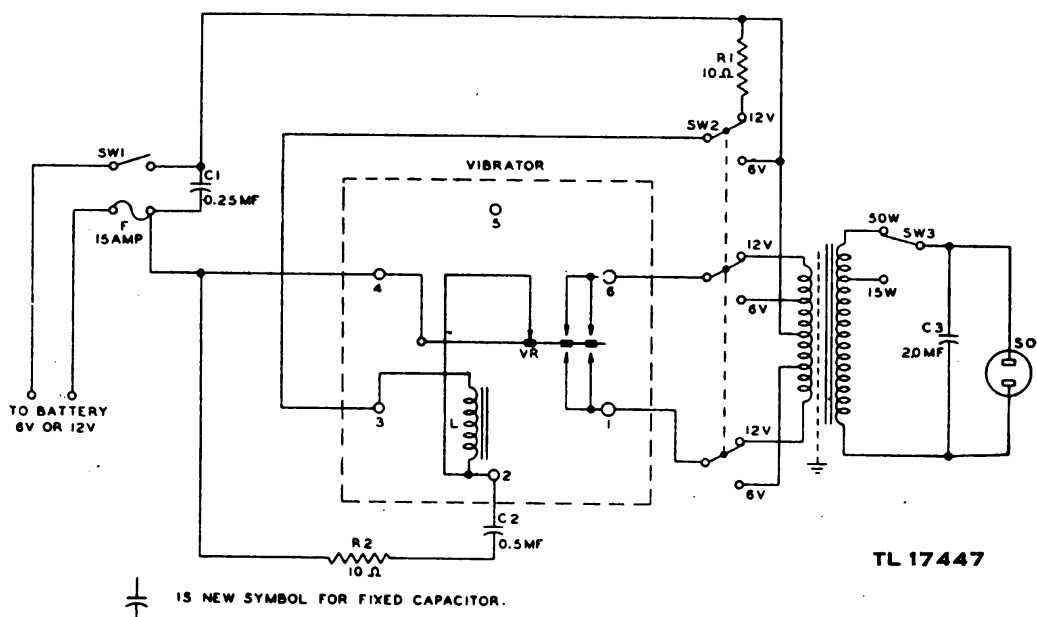

Figure 11. Vibrator Pack PP-68/U, schematic diagram.
**b. Replacement of Other Components.** Check the schematic diagram (fig. 11) before replacing any defective components. Make sure that all soldered joints to a replacement component are clean and secure. See that the chassis and wiring are cleaned thoroughly and free from superfluous particles of solder. Touch up exposed surfaces with moistureproofing and fungiproofing lacquer (see section IX).